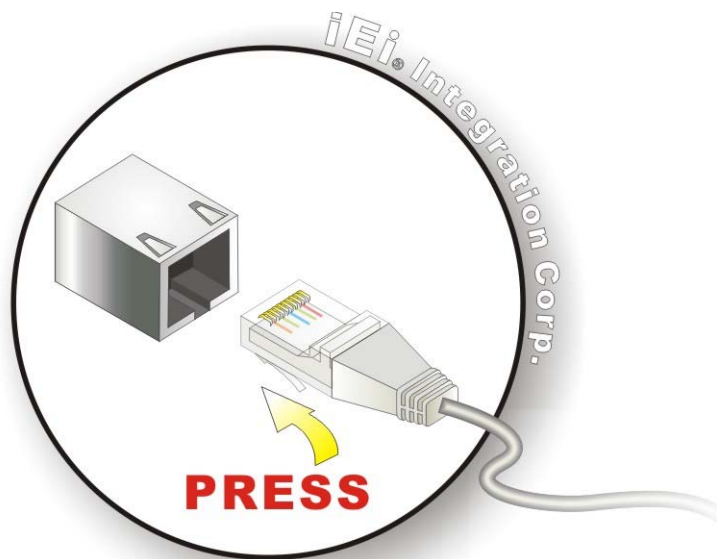

Figure 4-10: LAN Connection
Step 2: **Align the connectors.** Align the RJ-45 connector on the LAN cable with one of the RJ-45 connectors on the WAFER-PV-D5251/N4551. See Figure 4-10.